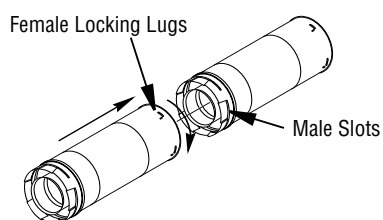

Figure 12 - Vent Pipe Connections
Twist-Lock Procedure: Female ends of pipes have locking lugs (indentations). These lugs will slide straight into matching slots on male ends of adjacent pipes. Push pipe sections together and twist one section clockwise approximately one-quarter turn until sections are fully locked (see **Figure 12, Page 19**).
2. Assemble desired lengths of pipe and elbows necessary to reach from fireplace flue up through firestop. Be sure all pipe and elbow connections are fully twist-locked (*see Figure 12, Page 19*).